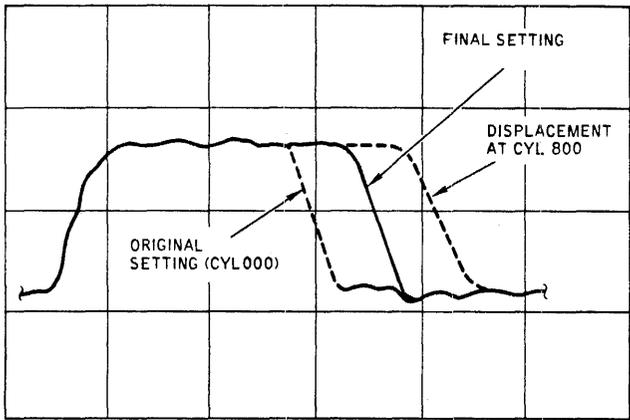

Figure 3-24. Clock Frequency Adjustment Waveform (T80)
8. Calculate the amount of displacement in the trailing edge between the Cylinder 000 and 800 head position, as shown in Figure 3-24.